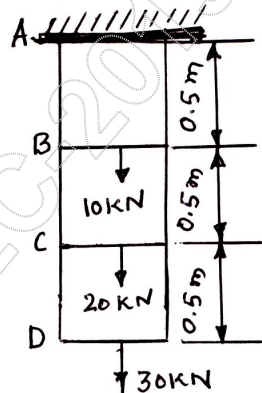

Fig.Q.1(b)
- b. A steel bar of 1.5m length and uniform section of 500mm^2 is suspended vertically and loaded as shown in Fig.Q.1(b). Taking $E = 2 \times 10^5 \text{N/mm}^2$. Determine the total elongation of the bar neglecting the self weight of the bar. (08 Marks)